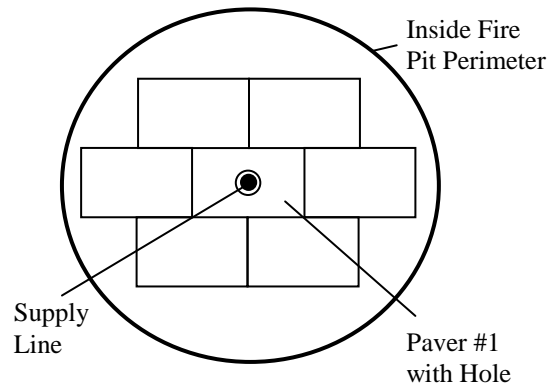
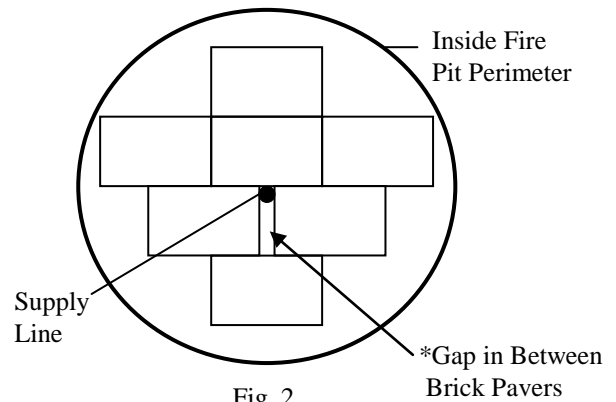
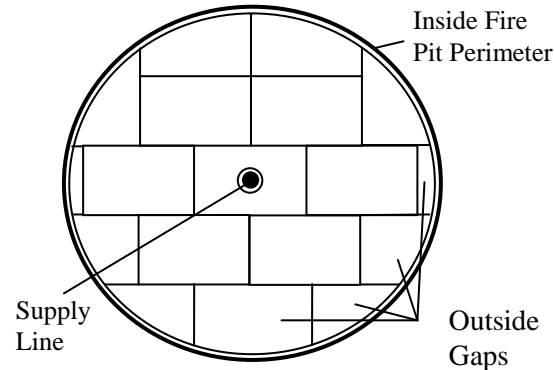

Fig. 1
Fig. 2
Fig. 3
- a. Drill hole in brick paver slightly larger than the supply line and install paver over supply line. See Fig.1.
- b. Follow brick pattern in Fig. 2.
- 4) Cut brick pavers to fill all outside gaps. See Fig. 3 and 4.
- a. If ventilation holes for the fire pit are located on the bottom of the enclosure wall, do not block- reference “Deck Insulation Kit – Install” for instructions. (Fig. 3)
<div><div><p>Vent Clearance: Allow 1" gap between side wall of enclosure.</p></div><div><p>Figure 1: Fire Pit Enclosure Construction- Deck Install</p></div><div><p>Fire Pit Enclosure Construction- see Figure 1: *Constructed with all Non-Combustible materials. *Enclosure venting: See manufacturer's instructions or drawings. *Enclosure height: Minimum 12" from deck surface- must also accommodate bottom clearance of fire pit insert controls with a minimum of 3" from deck surface. Some models require enclosure height of 18" or more- see insert drawings at hpcfire.com. *Please read and follow included fire pit insert Install and Operation Instructions.</p></div></div>
<div style="display: flex; justify-content: space-between;"> <div style="width: 45%;"> <p>Figure 1: Copper or Metal Bowls/Enclosures- bottom venting required</p> </div> <div style="width: 45%;"> <p>Figure 2: Concrete Bowls/Enclosures- with side venting</p> </div> </div>
<div style="display: flex; justify-content: space-between;"> <div style="width: 45%;"> <p>Fire Bowls/Enclosures- Manufactured: Some copper, metal or concrete enclosures require venting- see manufacturer's instructions. *Copper or metal- for Basalt/Paver application: -With side venting see Figure 2. -With bottom venting requirement see Figure 1. -With open bottom and side venting see Figure 3. *Concrete (thickness > 1")- for Basalt application: -With side venting see Figure 2. -With bottom venting requirement see Figure 1. -With open bottom and side venting see Figure 3.</p> </div> <div style="width: 45%;"> <p>Figure 3: Concrete Bowls/Enclosures- with side venting and open bottom</p> </div> </div>